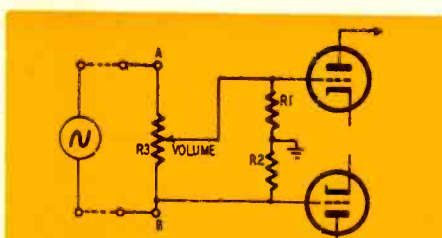
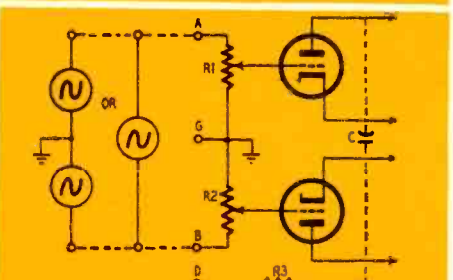

Fig. 5—Single control between grids.
Fig. 3—Circuit shows separate controls.
4. Single control between grids (Fig. 5)
4.2.2. Asymmetry makes Fig. 5 inferior to Fig. 3 for hum cancellation and amplifier balance. At full volume, any difference in voltage from A to ground and B to ground by reason of different lead and source capacitances, etc., will unbalance the amplifier. At low or zero volume, any large voltage from B to ground will produce even harmonics as well as the fundamental, if the amplifier is not perfectly balanced.
You can get away with using Fig. 5 where the source has little capacitance to ground and low enough impedance so that R1 and R2 need not be high. It is risky with crystal pickups, but I am using a Pickering magnetic.